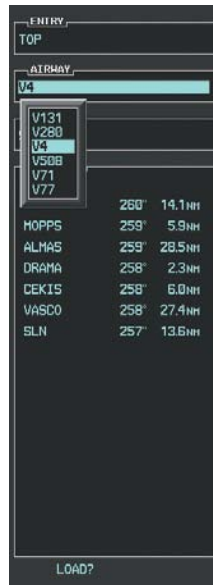

Figure 5-111 List of Available Airways for TOP
f) Select the **LD AIRWY** Softkey to display the list of available airways for TOP as seen in Figure 5-111.
g) Turn either **FMS** Knob to highlight V4 in the list as seen in Figure 5-111.